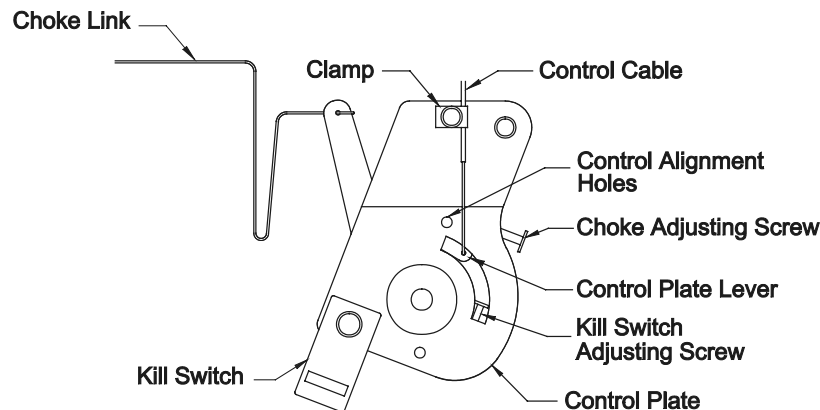

FIGURE 3
- c) Loosen clamp on engine control plate. (See Figures 3 & 4). Attach inner wire of the throttle cable to the control plate lever and position cable under clamp, **do not** tighten clamp.